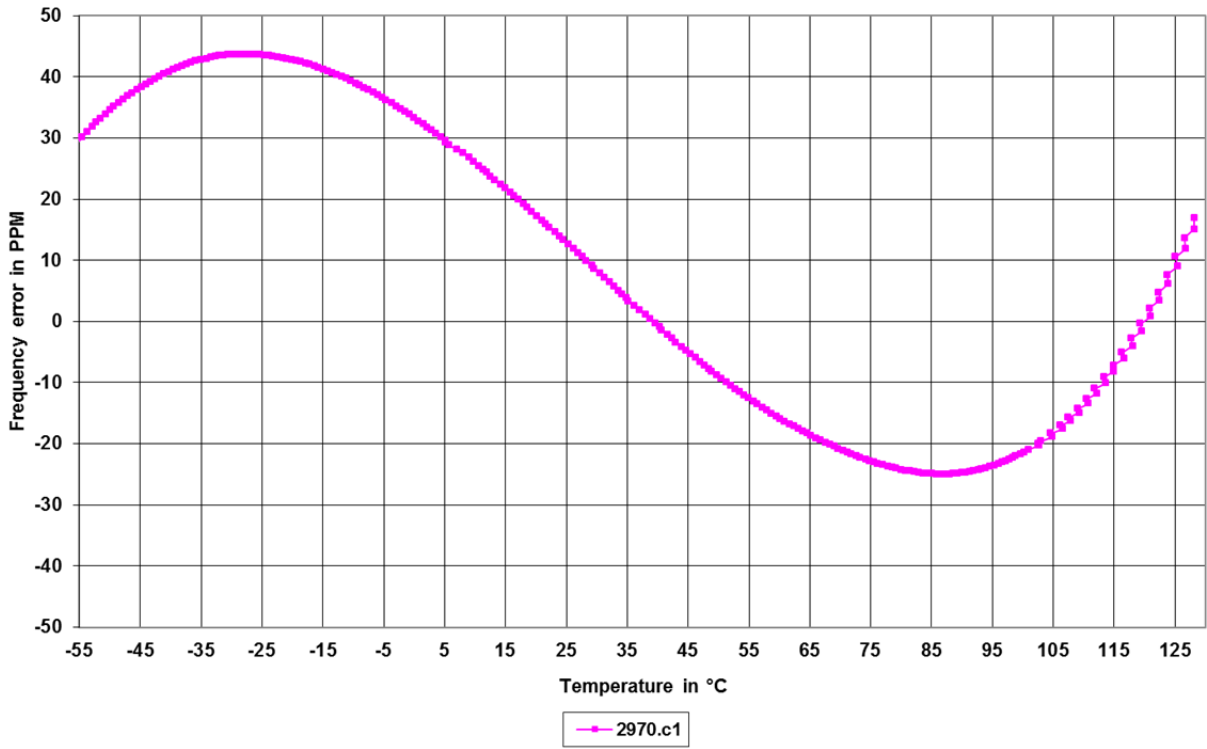

Figure 3
- e. Slow Ramp test (1.25°C/minute) or frequency measurement at every degree or every five degrees characterization for activity dips. See figure 3 and 4.